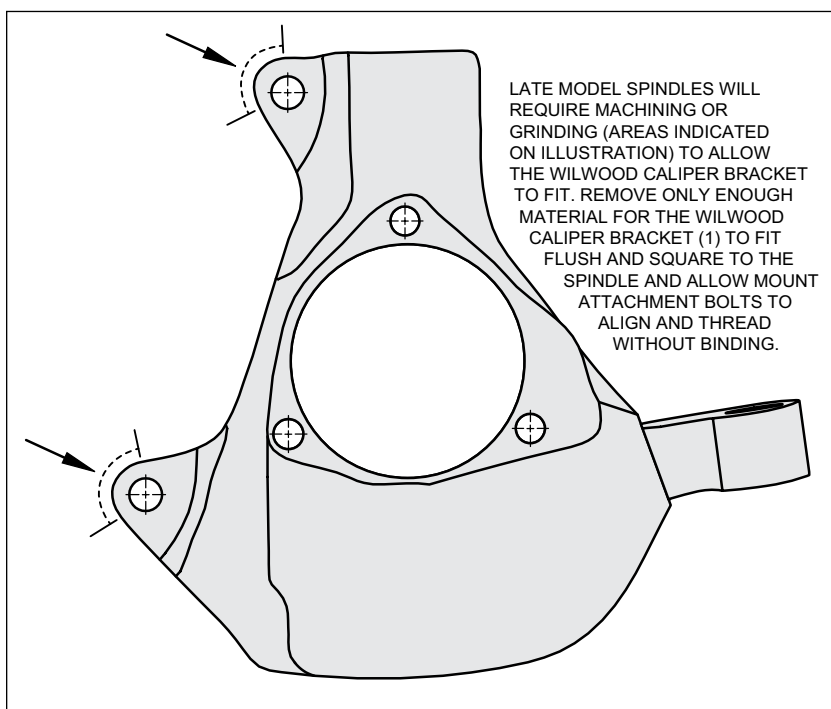

Figure 3. Spindle Machining Diagram
- 2007 - 2018 spindles will require light machining or grinding of the original caliper mount ears in order for the Wilwood caliper bracket to fit. Please see Figure 3, page 4 for instructions. Before assembly, examine the necessity of this modification by inspecting the spindle and bracket interface and your ability to perform this modification before assembling any parts.